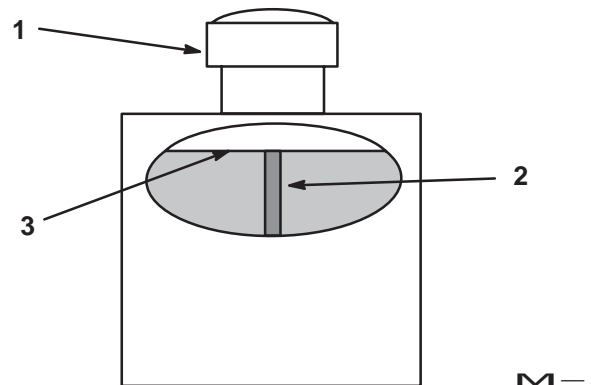

Figure 49
2. Clean area around filler neck of hydraulic tank (Fig. 49).
3. Remove cap from filler neck. Look inside to check if there is fluid in the reservoir. (Fig. 49).
**Note:** Fluid level should be to the top of the baffle when fluid is warm (Fig. 49).